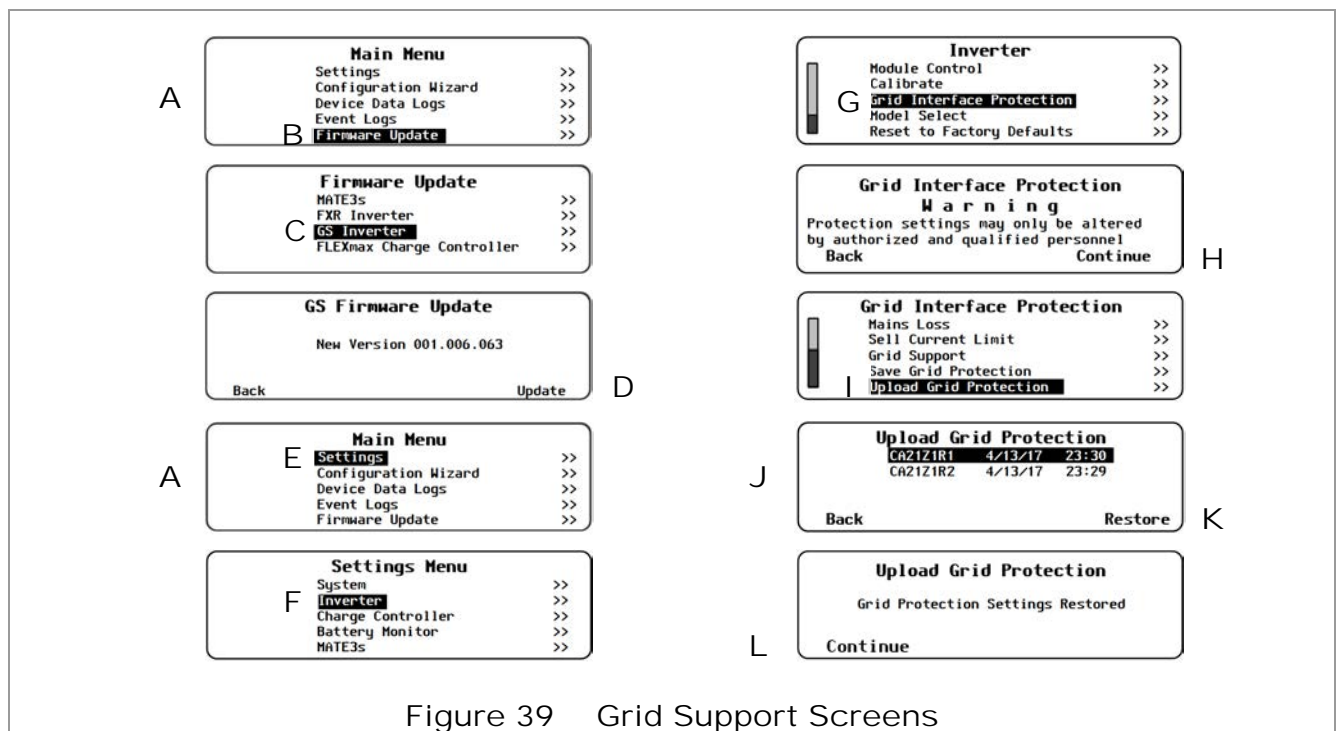

Figure 39 Grid Support Screens
2. From the system display **Main Menu** (A in Figure 39), choose **Firmware Update** (B) and then **GS Inverter** (C). The display will show that new firmware is present. (The revision should be 001.006.063 or higher.) Press **Update** (D) to download this firmware into the Radian inverter. This can take up to ten minutes per inverter. In certain systems it may take up to 20 minutes.